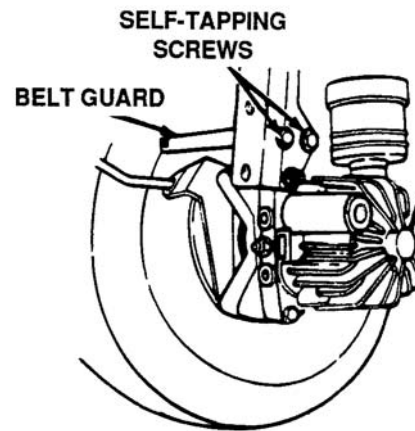

Figure 7-66. Removing Rear Belt Guard
5. Remove the rear belt guard at the transmission pulley by removing the two self-tapping screws. See Figure 7-66.